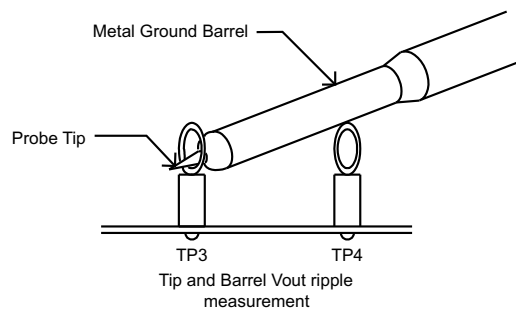

Figure 3. Output Ripple Measurement – Tip and Barrel Using TP3 and TP4
2. Connect oscilloscope probe with exposed metal barrel to TP3 and TP4 per Figure 3.